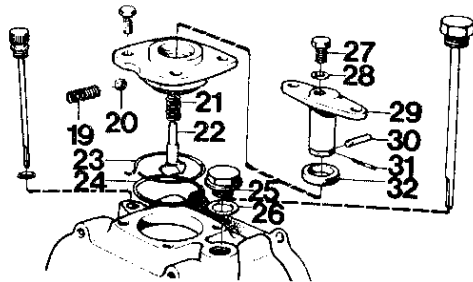
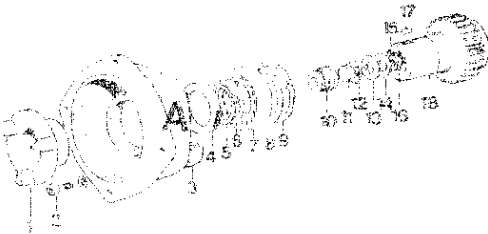

Fig. 8
Fig. 14
1. Knock out the tensioning pin (31, Fig. 8) and pull out the pin (30). Remove the lock wire, the springs (19) and the balls (20) (the earlier type of reverse gear has only one spring and ball). Pull out the eccentric plunger (29). Remove the sealing ring (32).
Control mechanism (Fig. 8) MS, MSB
2. Press the bearing (7, Fig. 14) into the front housing with the help of drift 884500.
3. Fit the shim (8), which is available in two thicknesses: 0.05 and 0.10 mm (0.002 and 0.004"). Secure the bearing with the circlip (9). Select shim thickness so that max. clearance is 0.05 mm (0.002"). Fit a number of shims until there is no clearance. Then remove a shim with thickness 0.05 mm (0.002").
4. Press the gear wheel (18) into the bearing with the help of drift 884263. NOTE! The counterhold (tool 884488) must be placed against the bearing inner ring.
5. Check the thickness and number of shims (6). Add shims and secure the gear wheel with the circlip (5). Choose the shim thickness so that there is a max. clearance of 0.05 mm (0.002"). Add shims until there is no clearance left. Then remove a shim with thickness 0.05 mm (0.002").
6. To protect the sealing ring (4) when installing, first place sleeve 884486 on the shaft end of the gear wheel. Apply a little grease to the sealing ring and fit it (the side with the spring should face the bearing). NOTE! The sealing ring may only be pushed in so far that it is flush with the edge of the housing. Remove the sleeve and fit the key (17) securely.
1. Screw tight the control mechanism in the gear housing so that the bolt (27, Fig. 8) in the eccentric plunger is displaced towards starboard.
2. Screw loose the bolt (27) and remove all the shims (28). Screw tight the bolt and place the mechanism in neutral. Try rotating the shaft (42). Note! To make sure that the engaging sleeve will rotate with the shaft, the output shaft then must be rotated. Remove one shim at a time until the shaft can be rotated without resistance. After the adjustment, apply sealing agent to the shims and bolt and then assemble.
3. Fit the key (17, Fig. 14) on the drive (18). Heat the flange (1) to about 150°C (302°F) and fit it.